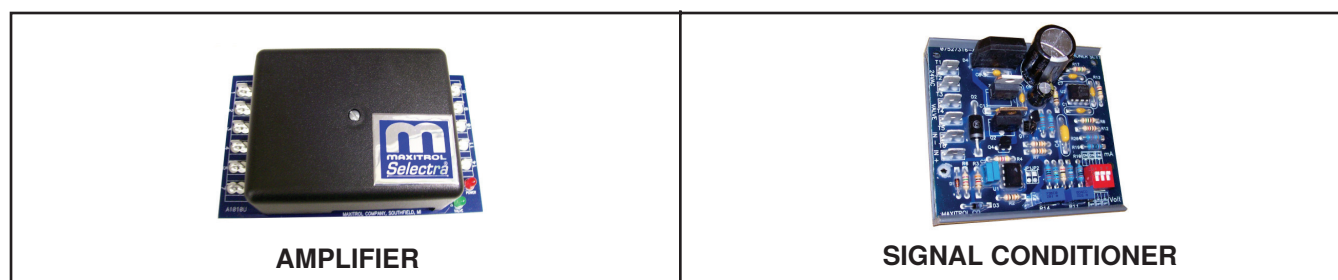
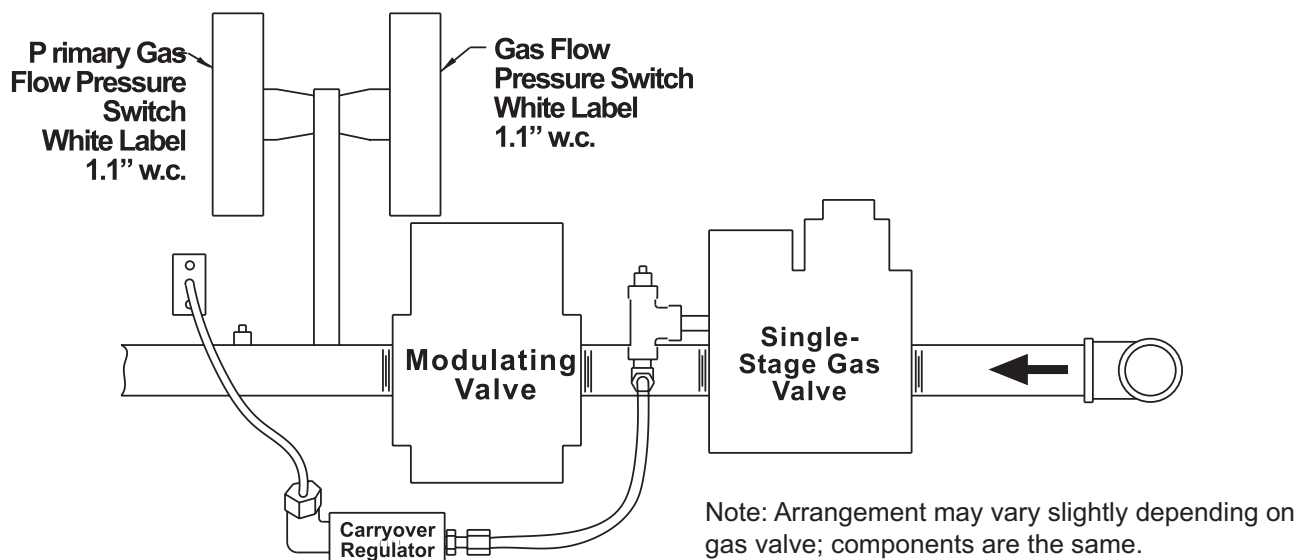

Figure 16. Maxitrol Amplifier and Signal Conditioner
Figure 17. Option AG39 Manifold Arrangement
- **Electronic modulation between 50% and 100% firing rate (option AG8):** Electronic modulation for makeup air application that is controlled by a duct sensor and temperature selector (55–90°F (12.8–32.2°C)). The temperature selector setting for option AG8 is on the amplifier (see Figure 16). Available with an override thermostat.
- **Electronic modulation between 50% and 100% firing rate (option AG21):** With option AG21, the furnace is equipped with a Maxitrol signal conditioner (see Figure 16) that operates much the same way as the amplifier above to control the regulator valve. The signal conditioner accepts an input signal of either 4–20 milliamps or 0–10V from a customer-supplied control device such as a computer. With the dip switches on the conditioner positioned to ON, the conditioner accepts a 4–20 milliamp signal. With the dip switches on the conditioner positioned to OFF, the conditioner accepts a 0–10V signal. The conditioner converts the signal to the 0–20V DC current required to control the modulating valve.
- **Electronic modulation between 20–28% and 100% firing rate (option AG39):** Depending on its size, a furnace equipped with option AG39 has a 20–28% turndown ratio. The furnace will ignite at any input rate in the available range and will maintain average thermal efficiencies equal to or greater than the thermal efficiency at full fire. When the valve receives a call for heat from the amplifier and pilot is established, gas flow from the single-stage valve goes to both the modulating valve and the regulated lighter tube system. When the signal from the amplifier to the modulating valve requires less-than-high fire operation, the modulating valve functions to lessen the gas flow to the burner to reduce the input rate to that which is necessary to maintain the desired temperature. When the input rate is reduced enough to decrease the gas pressure to 1.1 IN WC, the primary gas pressure switch in the manifold activates the gear motor that controls the bypass damper in the venter/combustion air system. The bypass damper opens to divert some of the incoming air directly into the flue duct to reduce air flow through the burner. Safety switches monitor the position of the bypass damper. When the gas pressure rises to >1.1 IN WC, the bypass damper closes. The gas train (see Figure 17) includes a single-stage gas valve, a modulating valve, and two gas pressure switches. The burner rack is equipped with one flash carryover and a regulated gas lighter tube system. The carryover lighter tube receives its gas supply through the regulator simultaneously with the gas to the burner. Control of the system is through a Maxitrol amplifier (see Figure 16) with a corresponding remote temperature dial. The gas supply (refer to pressure requirements in Table 12) connects to the single-stage gas valve. To compensate for additional pressure loss through the modulating valve, the single-stage gas valve has a custom outlet pressure setting higher than when it is used on a standard gas manifold. The pilot tubing connects to the pilot port on the single-stage gas valve. The duct temperature sensor and mixing tube are shipped loose for field installation in the discharge duct. This uniquely-designed modulation system requires combustion air pressure settings different from the standard system. Refer to Table 11 for the approximate combustion air proving switch settings at sea-level operation. Refer to the Troubleshooting Bypass Combustion Air Damper Safety Circuit on Units with Option AG39 or AG40 section for troubleshooting.
- **Electronic modulation between 20–28% and 100% firing rate (option AG40):** With option AG40, the furnace is equipped with a Maxitrol signal conditioner (see Figure 16) that receives an input signal of either 4–20 milliamps or 0–10V from a customer-supplied control device such as a computer. With the dip switches on the conditioner positioned to ON, the conditioner accepts a 4–20 milliamp signal. With the dip switches on the conditioner positioned to OFF, the conditioner accepts a 0–10V signal. The conditioner converts the signal to the 0–20V DC current required to control the modulating valve. The heater functions and is equipped in the same way as option AG39 except that with computer control, the temperatures are selected through the software and there is no temperature selector or duct sensor. This uniquely-designed modulation system requires combustion air pressure settings different from the standard system. Refer to Table 11 for the approximate combustion air proving switch settings at sea-level operation. Refer to Table 12 for pressure requirements. Refer to the Troubleshooting Bypass Combustion Air Damper Safety Circuit on Units with Option AG39 or AG40 section for troubleshooting.